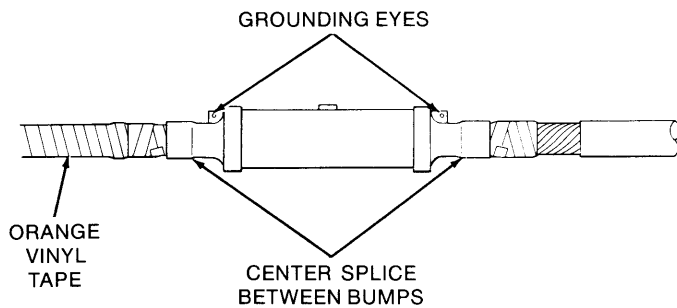

Figure 6
7. Slide splice body into final position over connector, using bumps formed on splice ends as guides for centering (Figure 6).